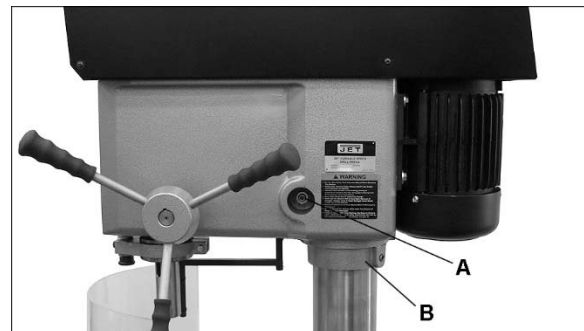
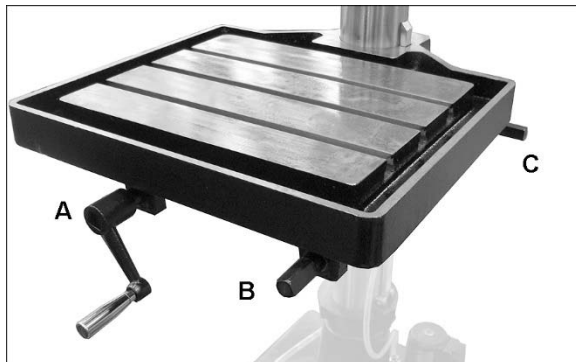

Figure 5-1
Figure 8-1: table adjustments
2. Loosen head locking nut (A, Figure 5-1) by turning counterclockwise with provided socket wrench.
4. Loosen table lock by placing handle on crankshaft (see A, Figure 8-1) and rotating handle counterclockwise.
5. Raise table by placing handle on crankshaft (B or C, Figure 8-1) and rotating clockwise. Place 2x4 vertically between table and head, as close to column as possible. CAUTION: Do not place 2x4 under lock collar (B, Figure 5-1).
7. Securely tighten head locking nut (A, Figure 5-1). This will secure head until lock collar can be positioned. The 2x4 can now be safely removed.
8. Loosen two set screws on lock collar (B), and slide lock collar until it is flush with head. Securely tighten both set screws.
The table can be raised or lowered to accommodate workpiece height. Place hand crank on shaft (A, Figure 8-1) and turn counterclockwise to loosen table lock. Then use hand crank on shaft B or C to raise or lower table. Lock table in position using shaft A.